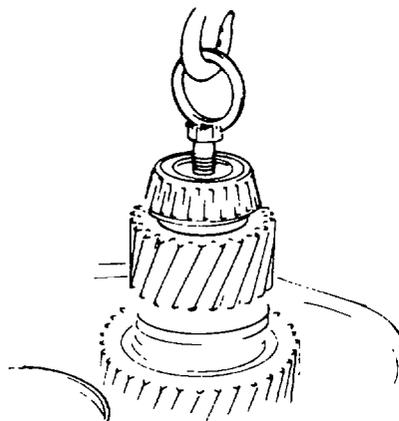

Fig. 246 — Installing Countershaft Assembly
- h. Turn the transfer case 180 degrees (rear of case facing up), using suitable lifting equipment install the countershaft assembly in the case (see fig. 246), then install the countershaft rear bearing clamp plate and retaining bolt (left-hand thread). Torque the retaining bolt to 720 – 773 Nm (530 – 570 lb.ft).